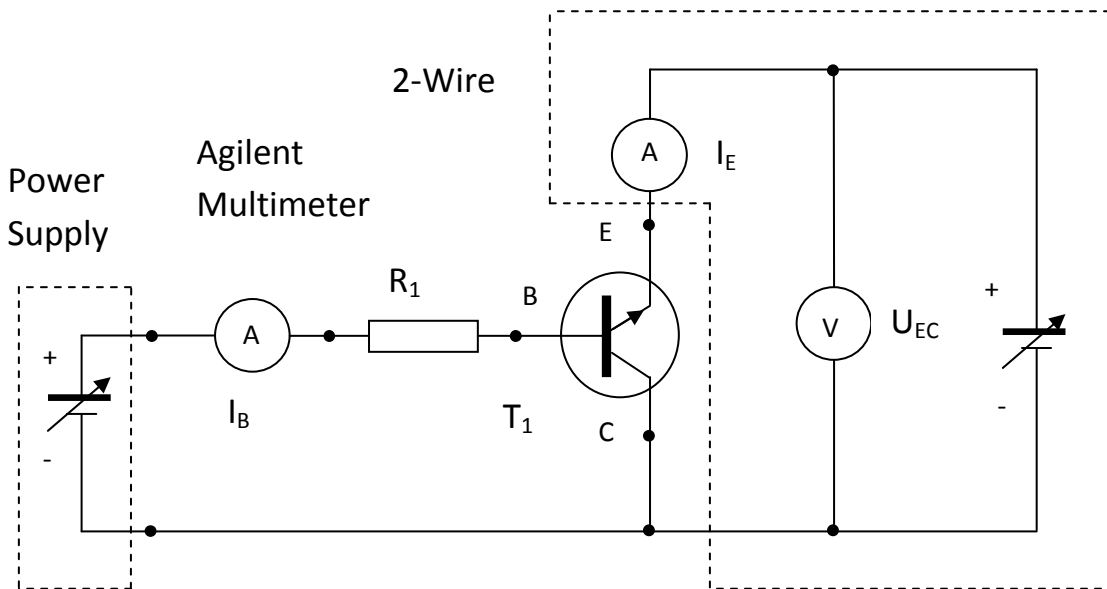

Fig. 3.2. Schematic of measurement setup utilized to determine output characteristics of npn bipolar transistor in inverse connection.
- 4.2. Construct the measurement setup from Fig.3.2. Use virtual multimeter (DMM) or Agilent multimeter to measure the base current. Use laboratory power supply as a power supply polarizing base-emitter circuit. Elements values equal to: $R_1=10\text{ k}\Omega$, transistor T1 (use the same transistor as in 4.1). Draw the output npn bipolar transistor characteristic for inverse connection for the U_{EC} voltage within **0-5 V** range, changing the voltage by 0.1 V, for fixed base current. The base current I_B should be changed from the starting value $100\text{ }\mu\text{A}$ with the step $100\text{ }\mu\text{A}$ in the range chosen by the teacher (for example 100, 200, 300, 400, 500 μA). Base current value is adjusted by setting the proper voltage at the output of power supply in a base circuit.